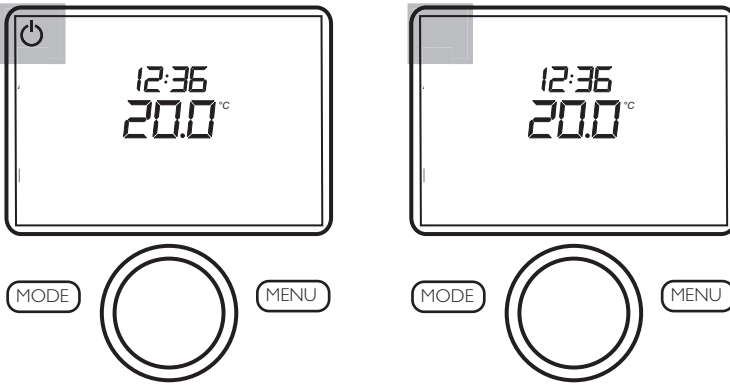

Fig 19. Unit in Standby Mode.
4. The screen display shows the current settings. Fig 19 shows the unit in Standby Mode. Fig 20 shows Operating Mode.